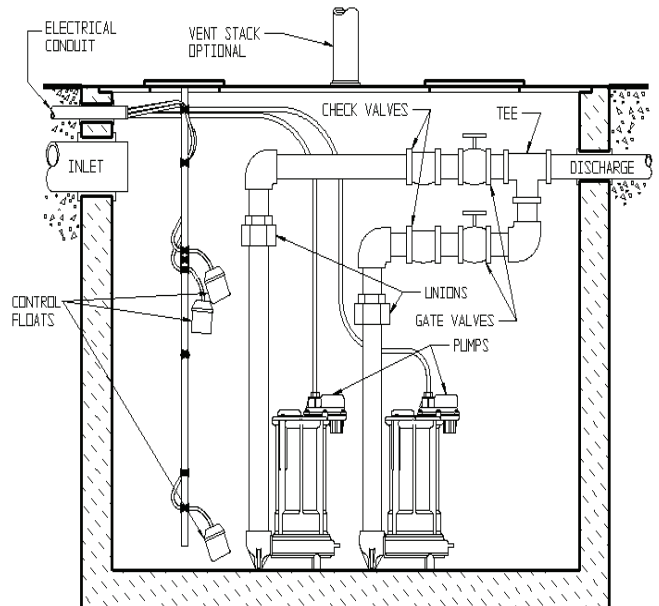

Fig. 3 – Typical Installation Duplex System
- B. **Duplex (Two Pump) Systems (see Fig. 3):** Set both pumps in place in the bottom of the basin. The duplex control used will include 3 or 4 floats that will either be tethered to one of the discharge pipes or to an independent rod or bracket. Follow the instructions provided with your duplex control device. Each float must be **free to move throughout its travel** and not contacting the pump body, piping, or other objects. Connect an individual discharge pipe to each pump. **IMPORTANT: DO NOT**